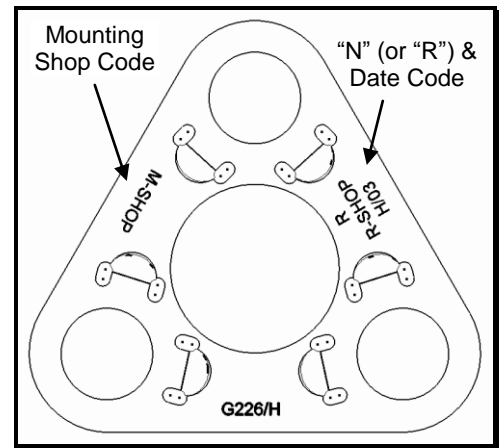

Figure 8 – Locking Plate Stamps
- 1) **Stamp the locking plate** as shown in Figure 8 (AAR Figure 4.76). Brenco locking plates come pre-stamped with a part number code, an “N” to indicate a new bearing, and the cup’s date code. Optionally, the mounting shop code may also be present.